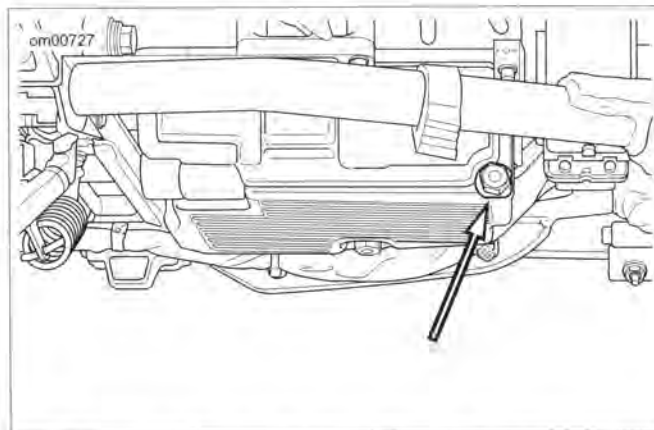

Figure 1-3. Engine Oil Drain Plug (left side under transmission)
3. See Figure 1-3. Remove the oil drain plug (2) and O-ring. Allow oil to drain completely.